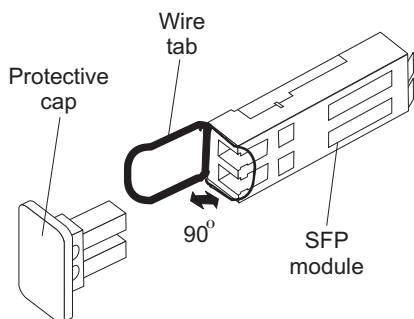

Figure 25. Unlocking the SFP module latch - wire variety
- For SFP modules that contain wire tabs, unlock the SFP module latch by pulling the wire latch outward 90°, as shown in Figure 25 on page 46.